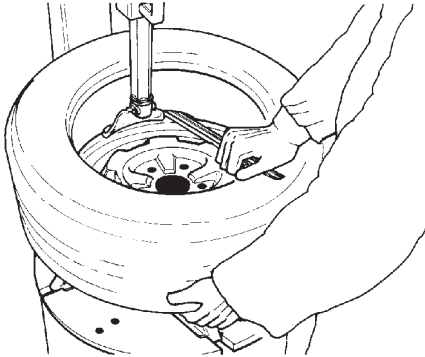

Fig. 4.1-7
- H. Repeat the process for removing the lower bead. This time, lift the bead opposite to the mount/demount head to keep it in the drop center (Fig. 4.1-7).